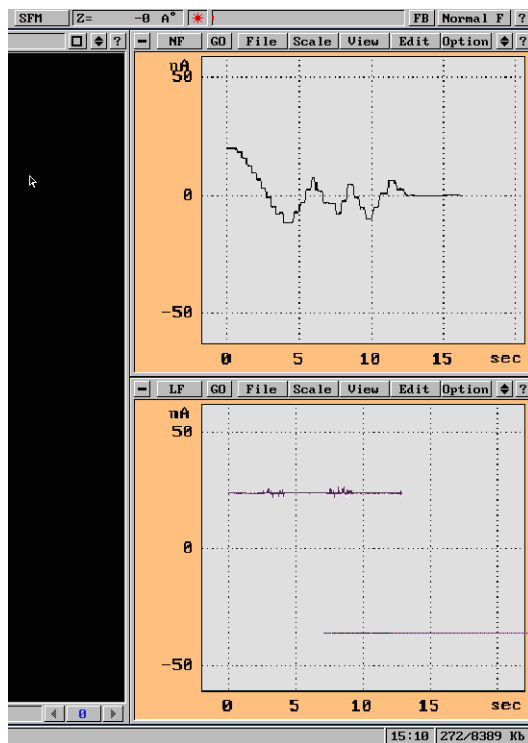

Fig. 147
Rotate the screw (7) to set signal value in the window "NF" equal to zero (Fig. 147). Check the signal value by slight rotation of the screw for indication of positive and negative values: it shows that the laser beam is approximately within the middle photodiode quadrant.